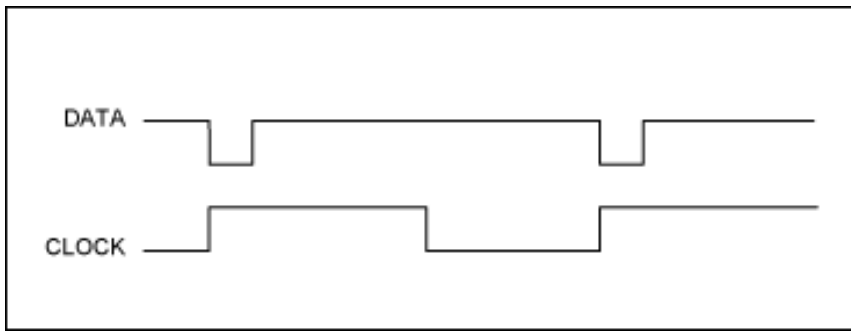

Figure 3. Data and clock signal waveforms produced by following test-setup Steps 1–3.
**Figure 3** presents the data and clock signal waveforms that result from following the procedure described in Steps 1–3.